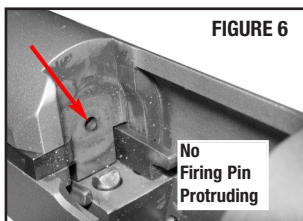

FIGURE 6
- Point the muzzle in a safe direction and depress the magazine release and remove the magazine (FIGURE 4). Depress the safety lever into the fully down “fire” position (FIGURE 6).
- Examine the breech face (FIGURES 6 and 7) to ensure that the firing pin is not protruding from the breech face.